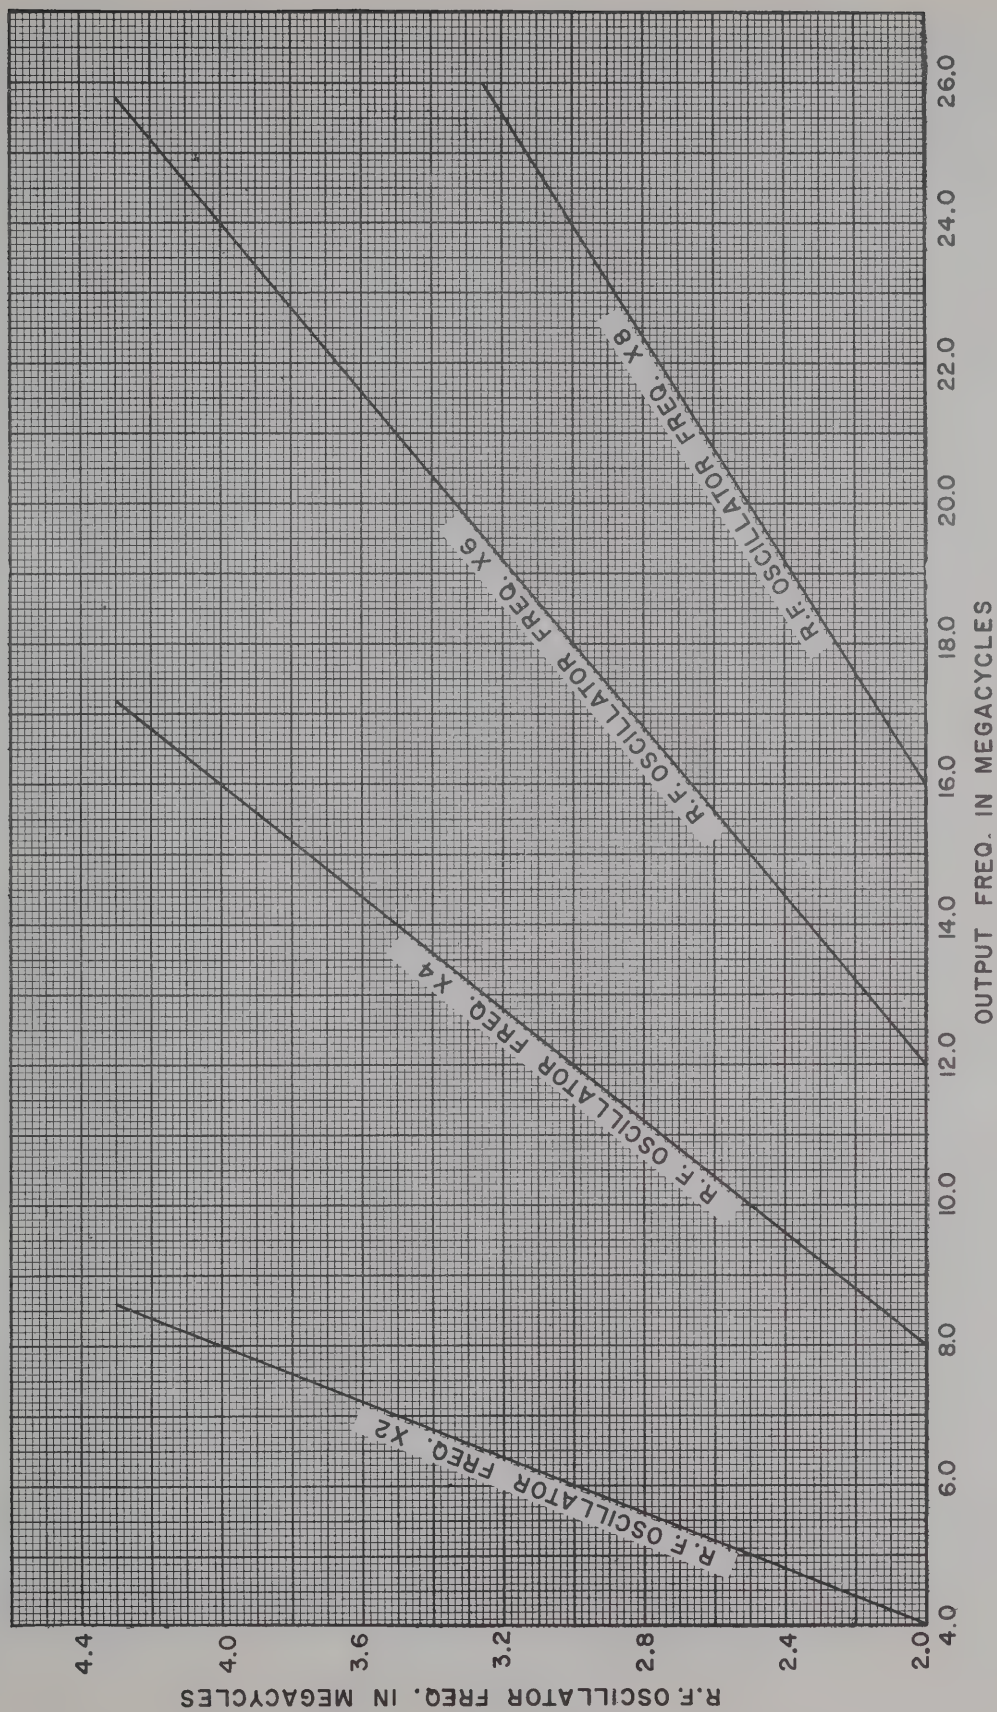

Figure 39. Oscillator Output Frequency vs. Transmitter Output Frequency.
- (1) Insert headphone plug into jack on front panel of the oscillator unit.
- (2) Set **SET UP - OPERATE** switch to **OPERATE** position.
- (3) Choose an oscillator frequency lying between 2.0 and 4.0 megacycles which, when multiplied by 2, 4, 6, or 8, will produce the exact desired output frequency. Figure 39 can be used as an aid in selecting this frequency and multiplying factor. However, actual longhand division of the exact output frequency by the multiplication factor should be done to derive the exact oscillator frequency.
- (4) Set **OUTPUT TUNING** control [C1] to the frequency determined in step (3).
- (5) The frequency control circuit provides a check point every 5 kc at the output frequency. Set the **INTERPOLATION OSCILLATOR** control [B1] to indicate the exact difference between the desired frequency and the check point just below it. For example, a required frequency of 2866.375 kc is 1375 cycles above the nearest check point; so the outer dial of [B1] should be set to 1.3 and the inner dial to 75.
- (6) Set the **MASTER OSCILLATOR CONTROL** [A1] as close as possible to the required
With the single sideband modification complete, as described in paragraph 34, and the input coaxial cables connected to the output of the Western Electric D156,000 or other suitable transmitter, the following tuning and setup procedure should be followed: Refer to the tuning charts, figures 39 through 49, for initial settings of all tuning controls for the frequencies to be used.